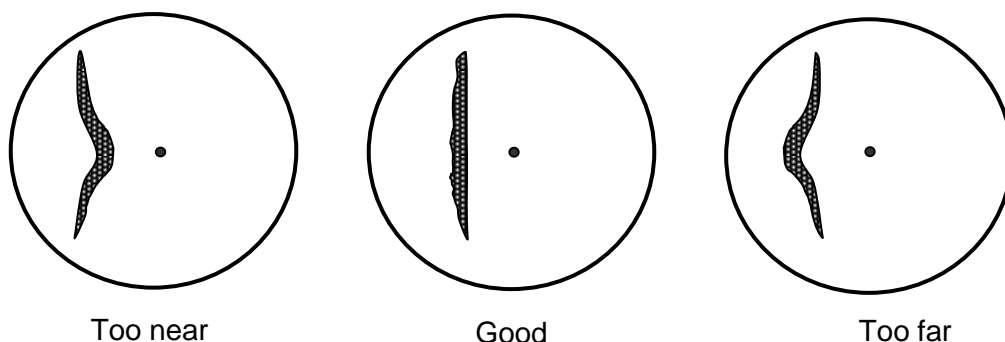

Figure 4.1 Picture display of Trigger Adjustment
- (3) Move the **TRACKBALL** up or down to adjust the value to get a straight picture of the straight object in the display as shown in Figure 4.1.
- (4) Press **ENT** key to save the adjustment result.